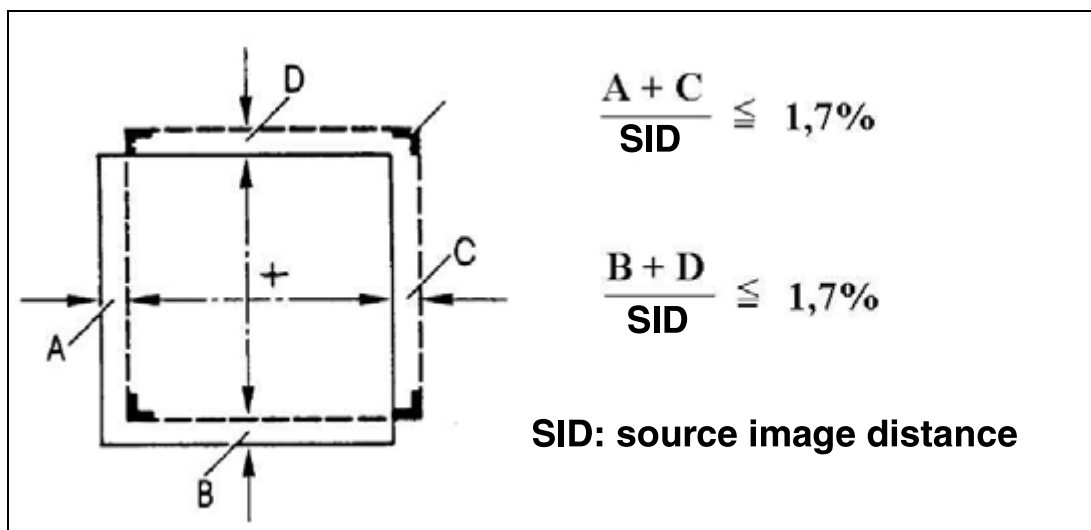

Fig. 17: Light field/radiation film
- Using the centering cross, evaluate on screen, on all four sides, the deviations (A, C and B, D) between the recorded light field and the radiation field edges (Fig. 17 / p. 38). Use the zoom function as necessary.